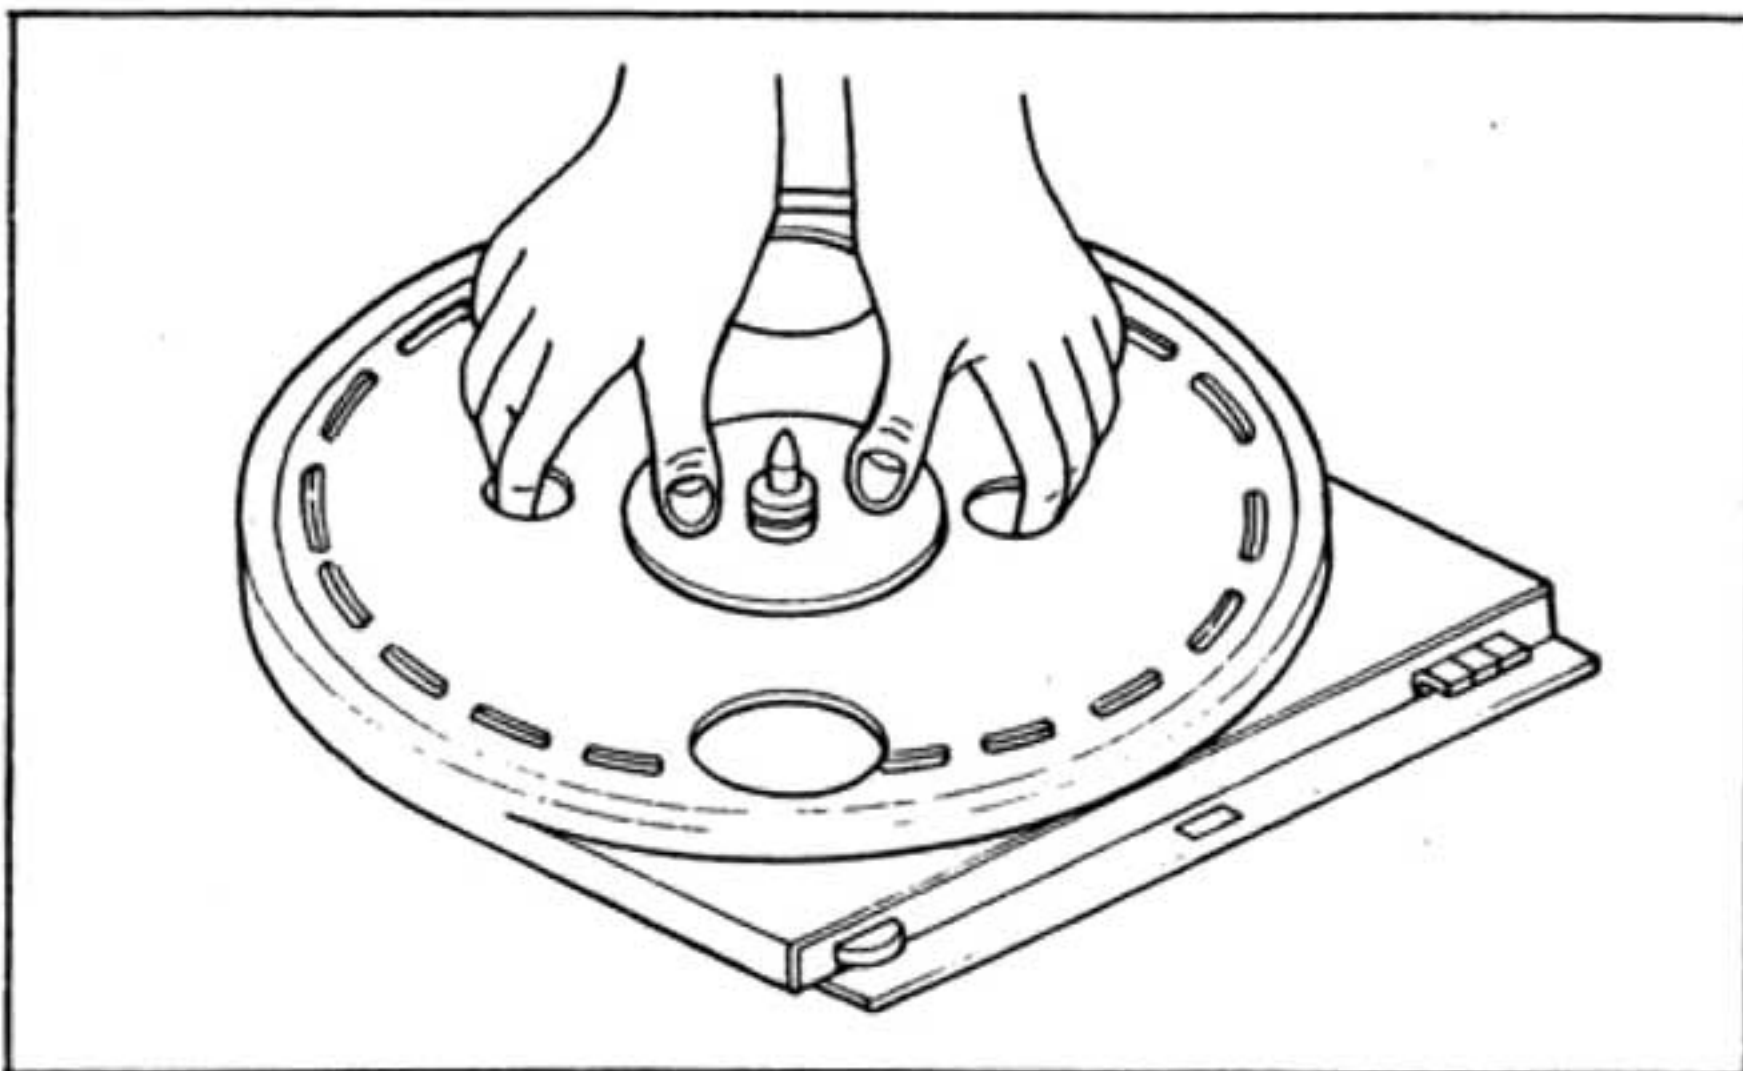

Fig. 2-2. Turntable platter removal
2. Remove the rubber mat from the turntable platter, and then insert your fingers into the two holes of the turntable with both thumbs placed on the center spindle as shown in Fig. 2-2.